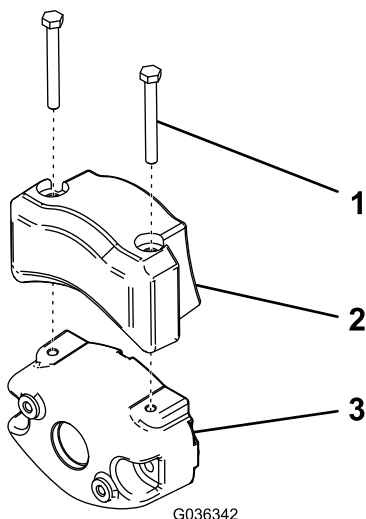

Figure 10
4. Secure the electrical counterweight to the existing counterweight with 2 capscrews as shown in Figure 10.